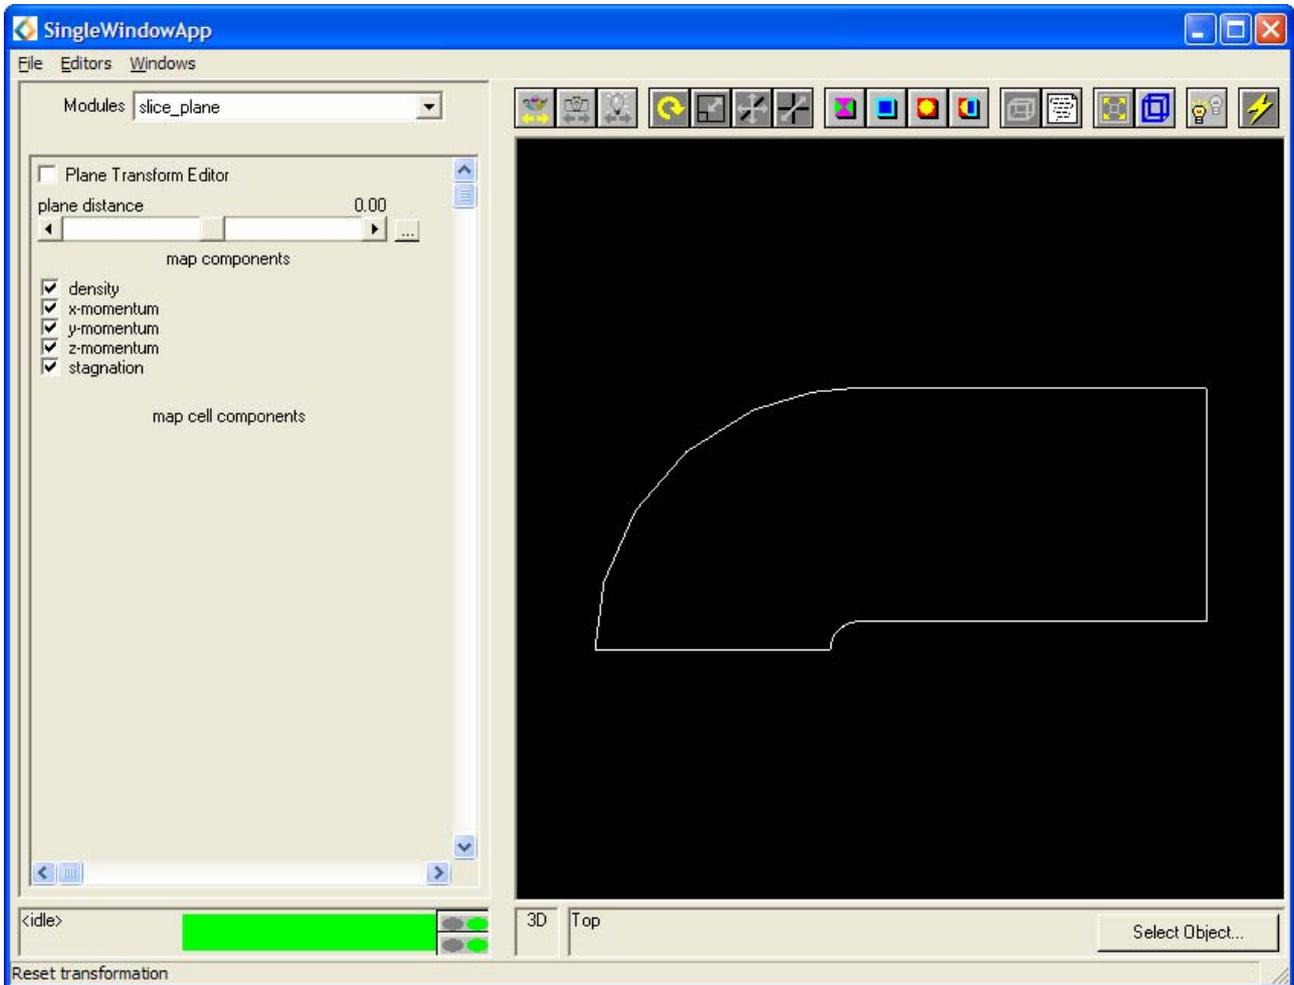

Figure 4.2: slice\_plane Editor Panel
- Select the Editor Panel for the `slice_plane` module and activate all five data components by selecting each one with the mouse as shown in Figure 4.2. Temporarily ignore any error messages which appear.